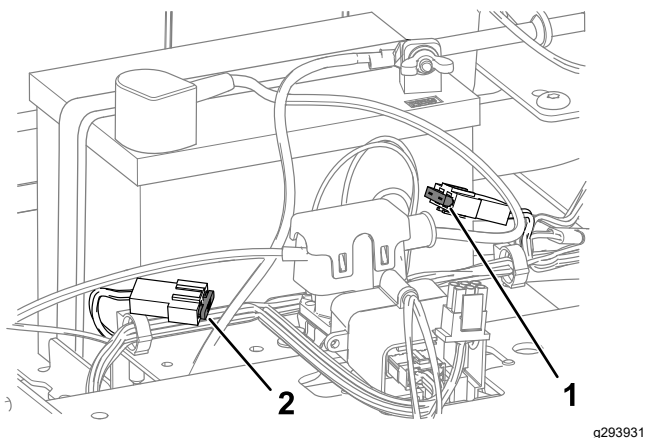

Figure 46
4. To replace a fuse, pull out the fuse to remove it (Figure 46).